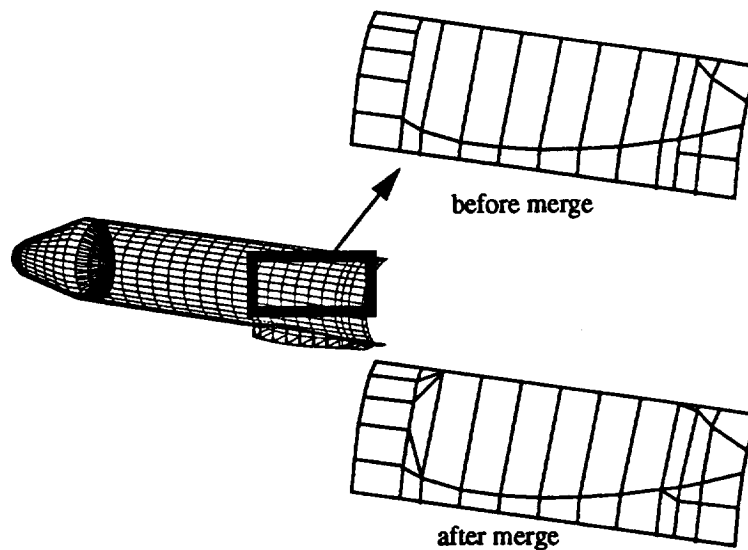

FIGURE C.37. The *merge fuselage* Option is used to correct problem area where wing intersects the fuselage.
23. Examine the structural models of the fuselage, tip fitting and wings. As shown in figure C.37, the one problem area in the model is where the wing intersects the fuselage. To fix: